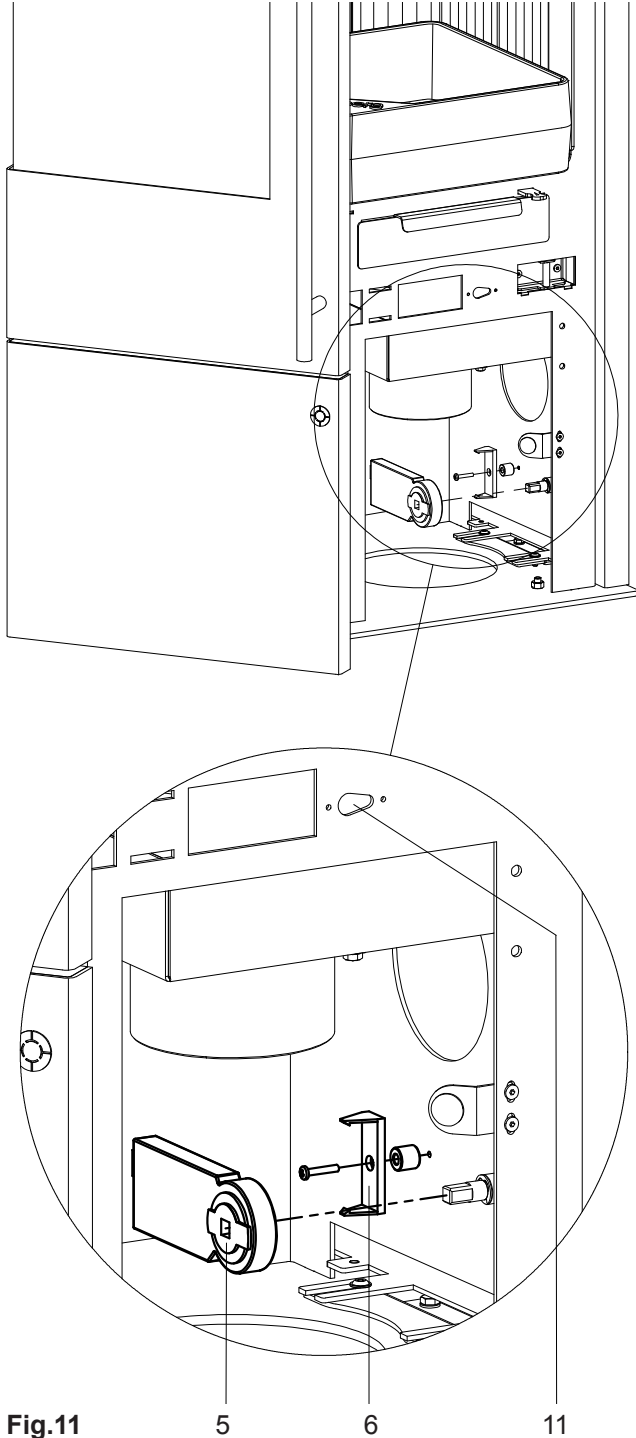

Fig.11
- Tighten the motor retaining clip (6) with the spacer sleeve in the wood storage compartment. Push the servo-motor (5) onto the rotation axis of the air regulator lever and snap into the motor retaining clip (Fig.11).
- Install the door contact switch (fastening position, see Fig.11) as described in chapter “General installation steps”, step 2+3.